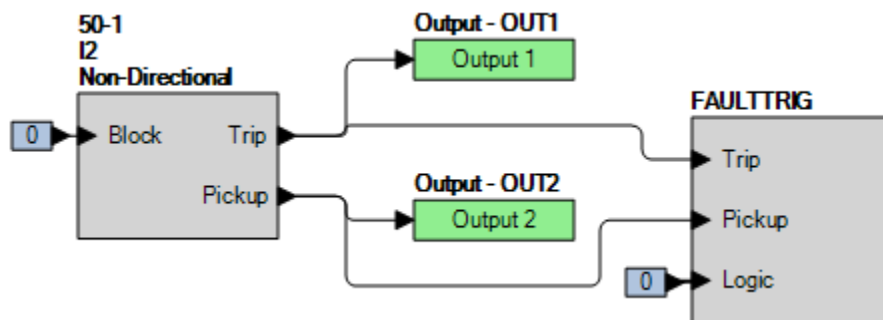

Figure 62-3. BESTlogic*Plus* Settings (I2 Mode)
- Step 2: Use BESTCOMS*Plus* to configure the BESTlogic*Plus* programmable logic shown in Figure 62-3.
- Step 4: Prepare to monitor the 50-1 function operation. Operation can be verified by monitoring OUT2 (see Figure 62-3).